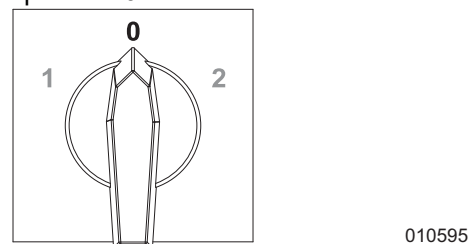

Figure 3-33. Flex Switch—Position 0
3. See Figure 3-33. Switch the flex switch (if equipped) to position 0.